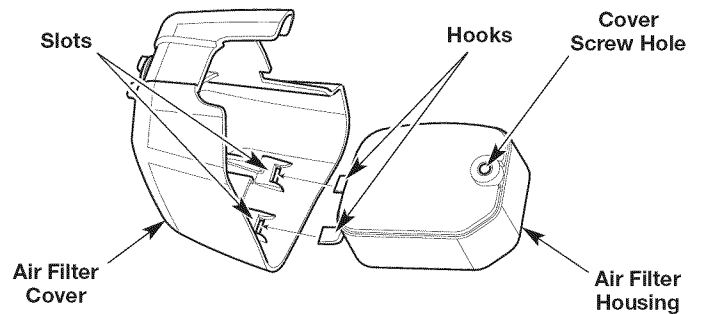

Fig. 16
6. Reinstall the air filter inside the air filter housing (Fig. 16).
7. Insert the hooks on the air filter housing into the slots on the air filter cover (Fig. 16).
8. Swing the air filter cover to the right and align the cover screw with the cover screw hole (Fig. 16). Tighten the cover screw to secure the air filter cover.